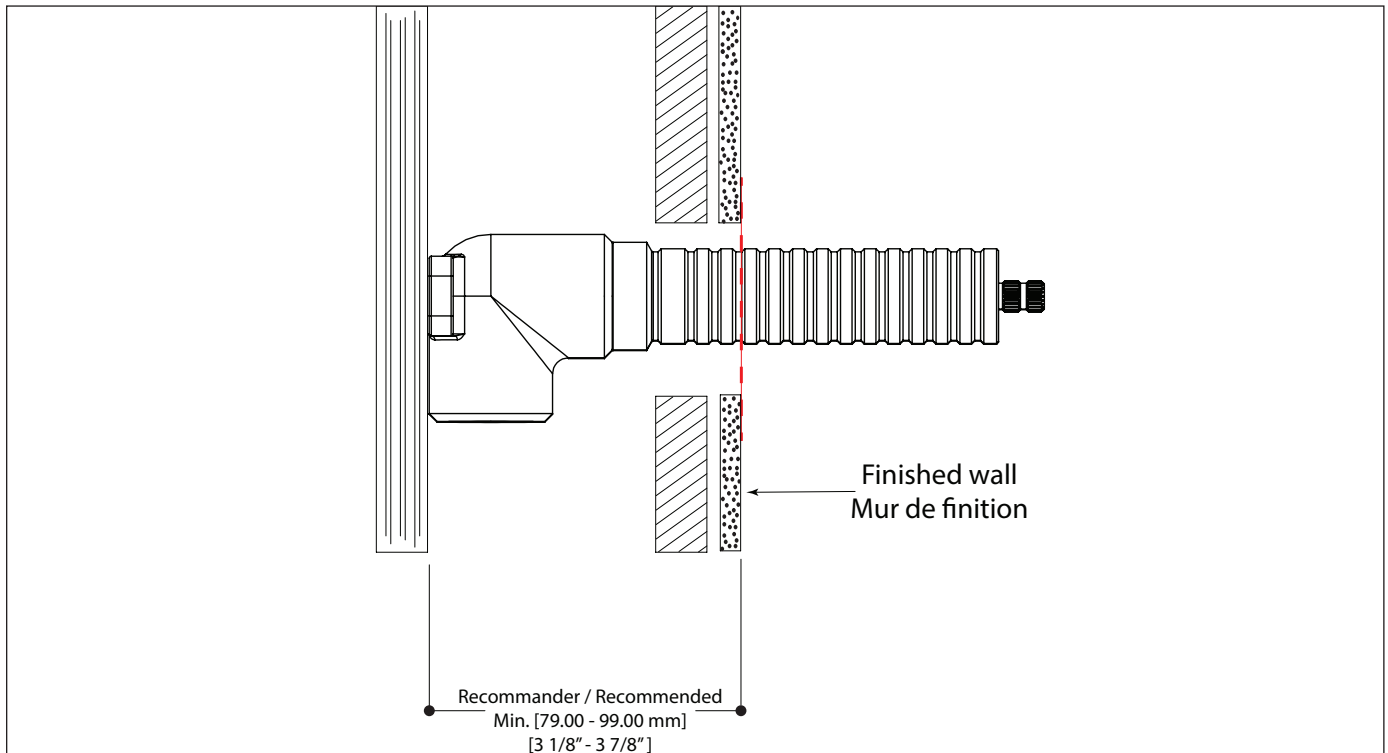

Fig.1
Determine the valve location. For an optimal installation, position the valve between 2x4 studs, with plywood backing. Fix with wood screws (not supplied) (Fig.1).
**TO ENSURE PROPER INSTALLATION OF THE VALVE INSIDE THE WALL, IT IS VERY IMPORTANT TO FOLLOW THE RECOMMENDED DEPTH AS INDICATED IN THE ILLUSTRATION (Fig.1).**
Déterminer la position de la valve dans le mur. Pour une installation optimale, placer la valve entre 2 montants de 2x4, solidement fixé sur un support en contre-plaqué, (vis à bois non fournies) (Fig.1).
**AFIN D'OBTENIR UNE INSTALLATION CORRECTE DE LA VALVE, IL EST IMPORTANT DE RESPECTER LA PROFONDEUR SUGGÉRÉE TEL QU'ILLUSTRÉ (Fig.1).**